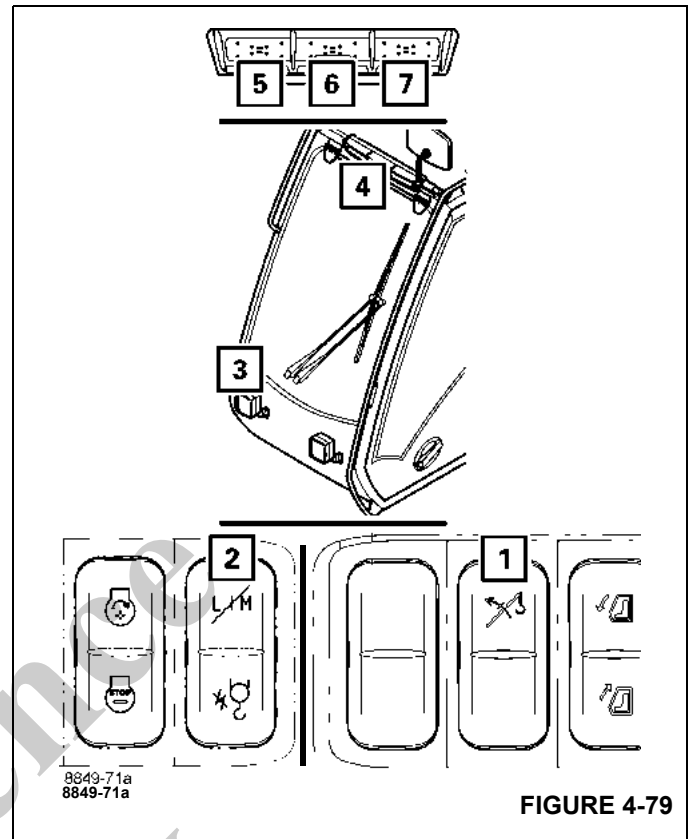

FIGURE 4-79
The lamps (5), (Figure 4-79) to (7) of the external light bar (4) light up or flash depending on the RCL degree of utilization and button confirmations.